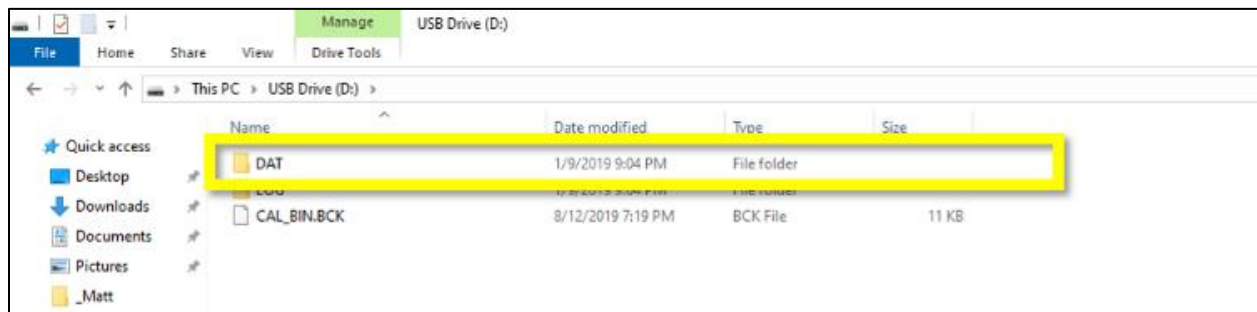

Figure 3. Open DAT Folder in USB Drive
2. Open the **DAT** folder (Figure 3).